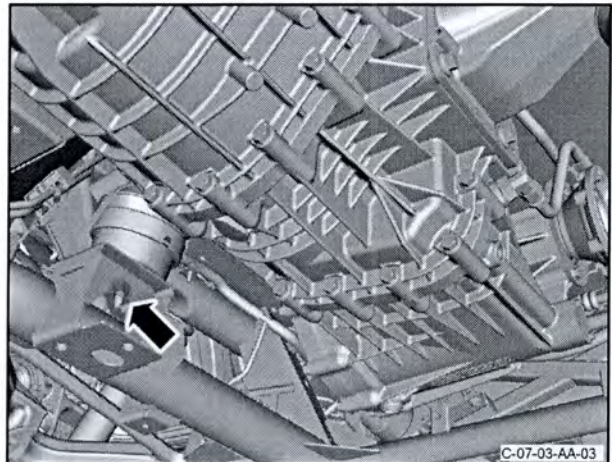

Figure 16
26. Remove the nut that attaches the right side transaxle mount to the rear subframe (refer to Figure 16).